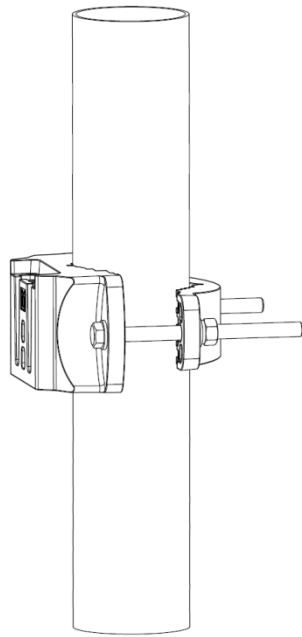

Figure 3-8 Install the RRU mounting part on the pole
2. Assembling the mounting part to the pole: Remove the nut (including spring washer and flat washer) from one bolt of the mounting part, then remove the bolt and keep the mounting part open on one side; apply the mounting part into the pole horizontally, and then Insert the bolt into the mounting part; adjust the mounting part, apply the flat washer, spring washer, and nut, and tighten the nut with the wrench, as shown in Figure 3-8.